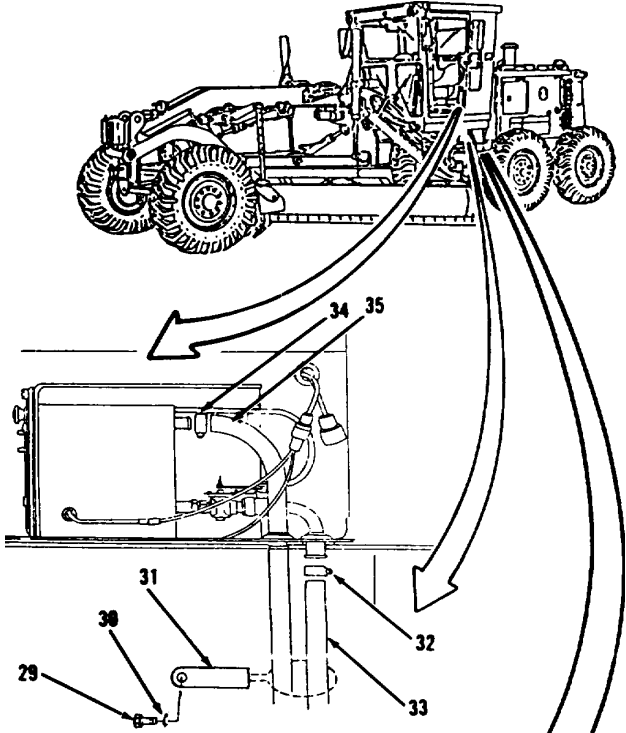
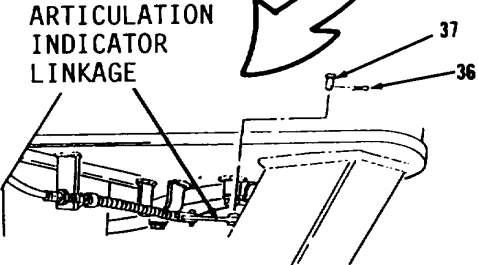

Figure 16-7.
Figure 16-8.
- 10. Remove bolt (29), washer (30) and clip (31, Figure 16-7).
- 11. Remove clamp (32) and position heater hose (33) to rear of vehicle.
- 12. Remove clamp (34) and position heater hose (35) to rear of vehicle.
- 13. Remove cotter pin (36) and pin (37, Figure 16-8) from articulation indicator linkage. Discard cotter pin (36).